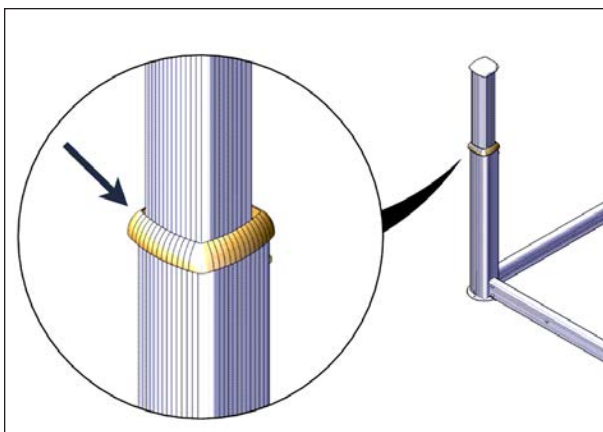

**FIGURE 59: MOUNTING SCREW ON THE SLEEVE**
20. Fasten the sleeve with the Phillips M6 x 20 mm screws at the bottom of all four sleeves see Figure 59.